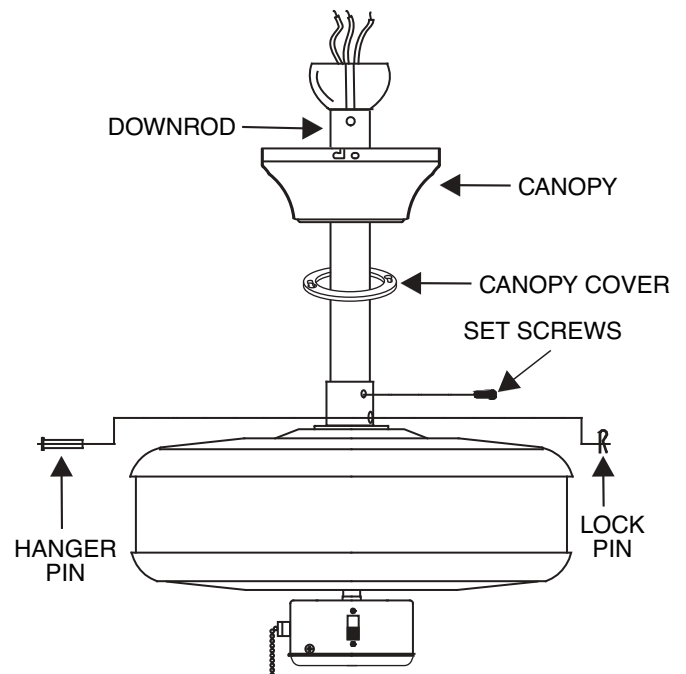

FIGURE 6
4. Route wires exiting from the top of the fan motor through canopy cover and canopy and then through the ball/downrod. (Fig. 6)
5. Select either the short or long downrod (included with the fan) and align the holes at the bottom of the downrod with the holes in the collar on top of the motor housing. Carefully insert the hanger pin through the holes in the collar and downrod. Be careful not to jam the pin against the wiring inside the downrod. Insert the lock pin through the hole near the end of the hanger pin until it snaps into its locked position. (Fig. 6)